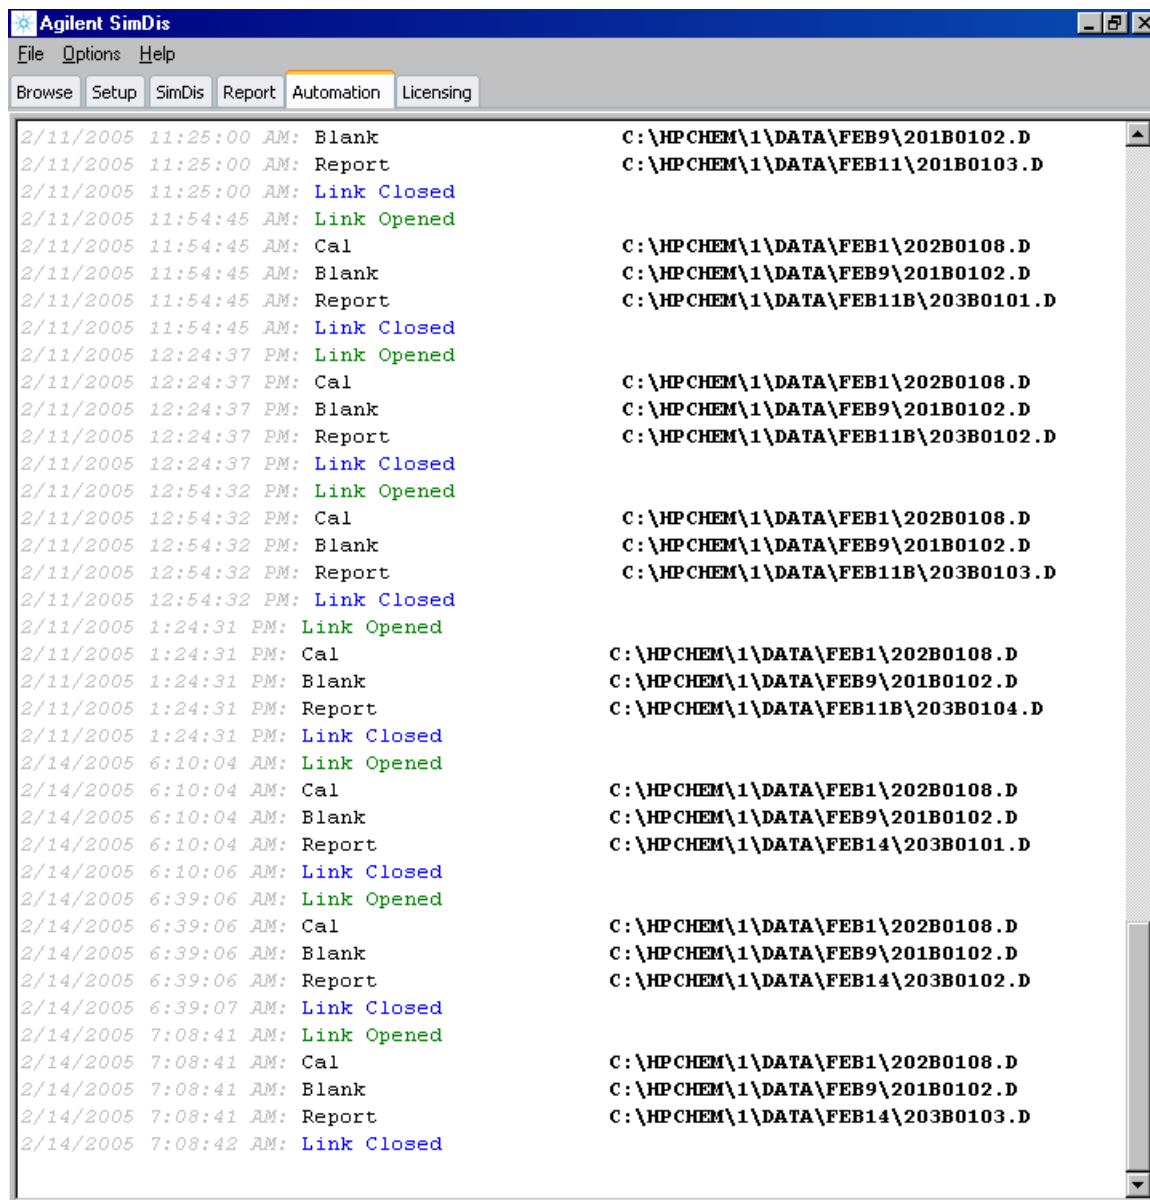

Figure 47 One Instrument configured and **Setup / Set Calib, Set Blank, and Set Parameters** explicitly selected
- Figure 47 is an example of a single-Instrument system where explicit **Set Calib**, **Set Blank**, and **Set Parameters** selections are used